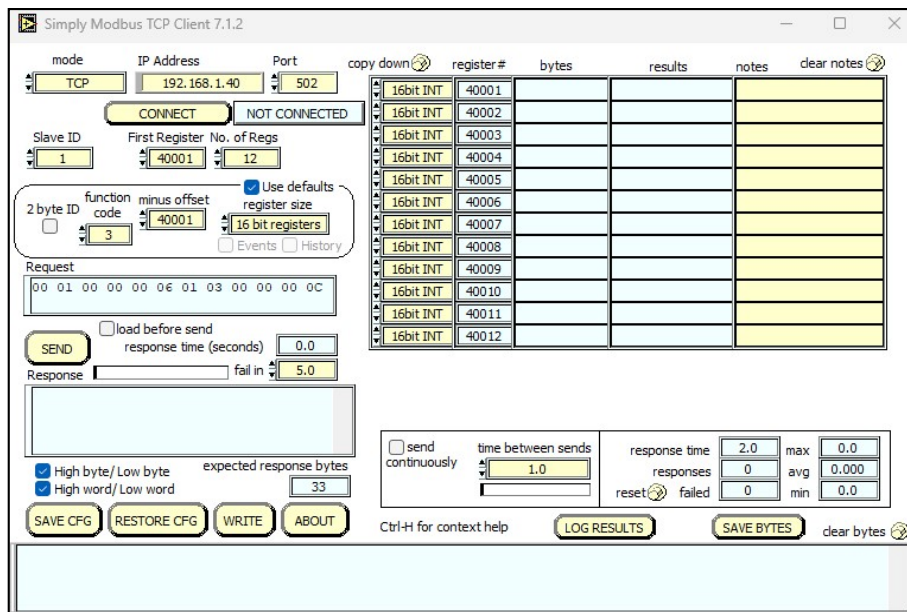

Figure 77: Modbus TCP Client Configuration Interface
- 3. Set Up the Modbus Client Application:** Enter the IP address and Slave ID into the Modbus client application, such as the Modbus TCP client shown in Fig 77. This setup will enable the application to establish a connection and communicate with the SMDAS server.